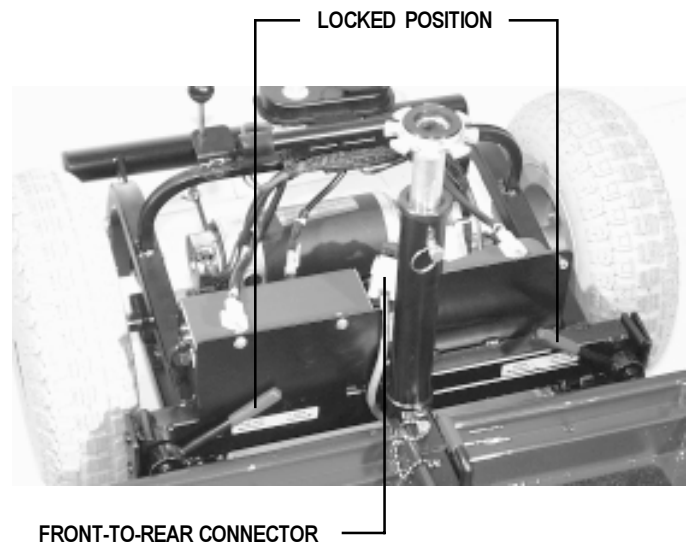

Figure 16. Lock Cam Lock Levers
6. Place the cam lock levers in the locked position. See figure 16.